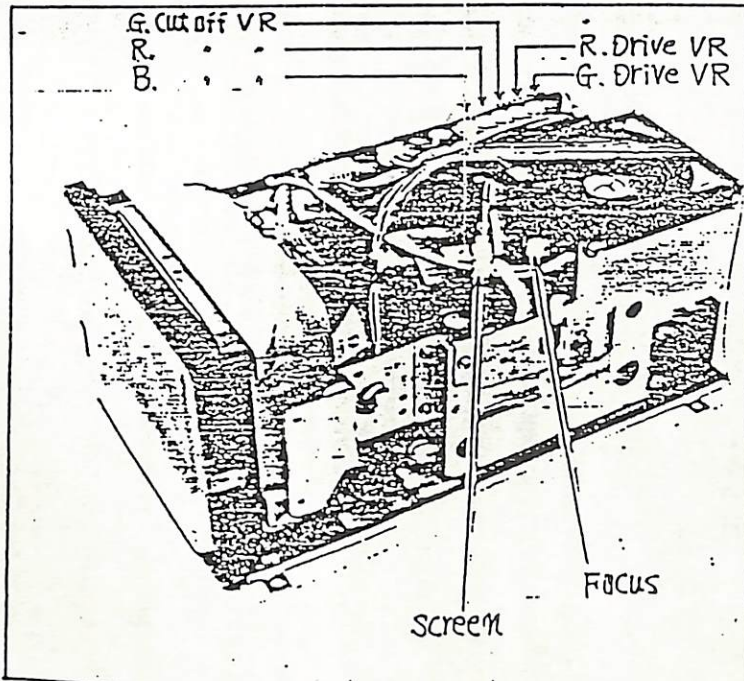

Fig. 2-8
3. Turn the green cutoff VR (R707) fully clockwise and the red and blue cutoff VRs (R704, R701) fully counter-clockwise. (Fig. 2-8)
Adjust the screen VR (Fig. 2-8) so that the vertical green band becomes easy to see.
2. Turn the red and blue cutoff VRs fully clockwise and the green cutoff VR fully counter-clockwise (Fig. 2-8). Adjust the screen VR (Fig. 2-8) for an easily seen image.
3. Turn the red, blue and green cutoff VRs (R704, R701, R707) and the screen VR (Fig. 2-8) fully counterclockwise to eliminate luminance.